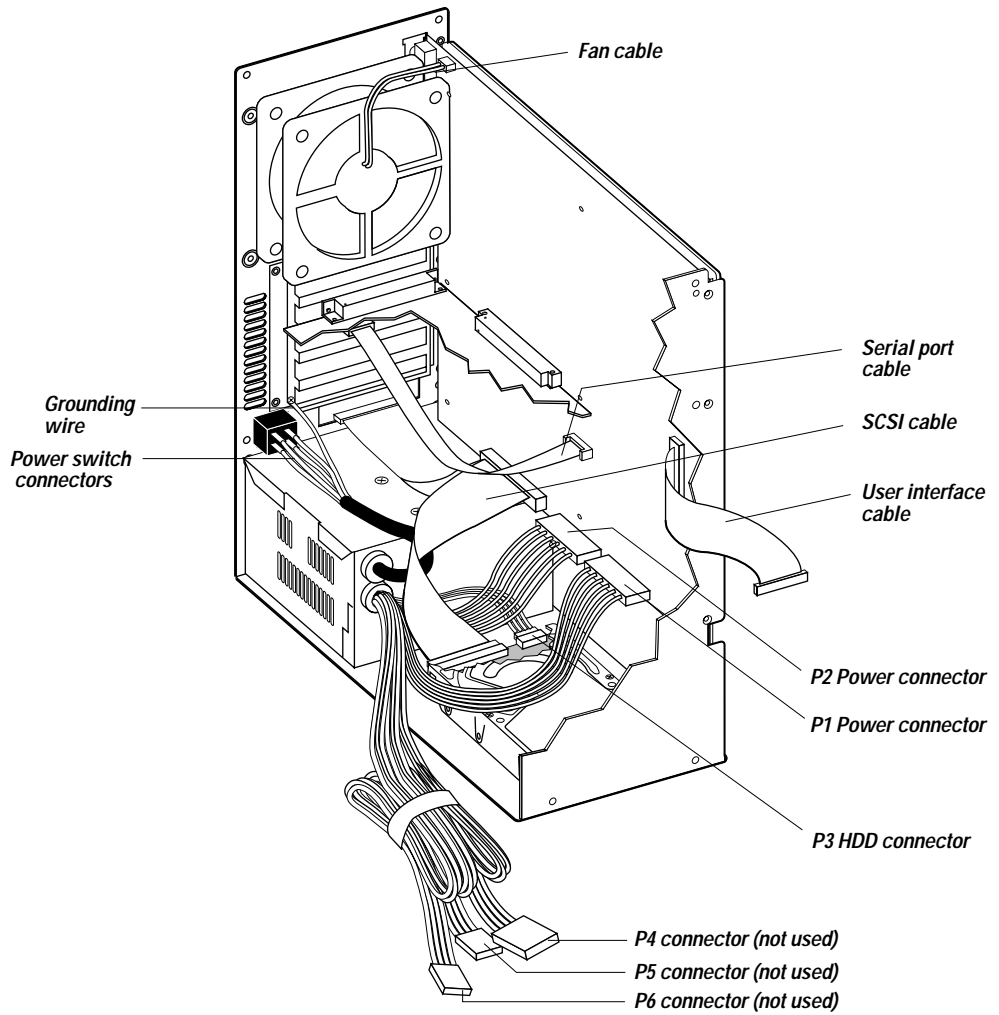

Figure 5-5 Cable connections in the Fiery XJ-R/R2
5. *Make sure that all Fiery XJ-R/R2 ribbon cables are seated on connectors. See Figure 5-5 on page 5-9 and Table 5-1 on page 5-10.*